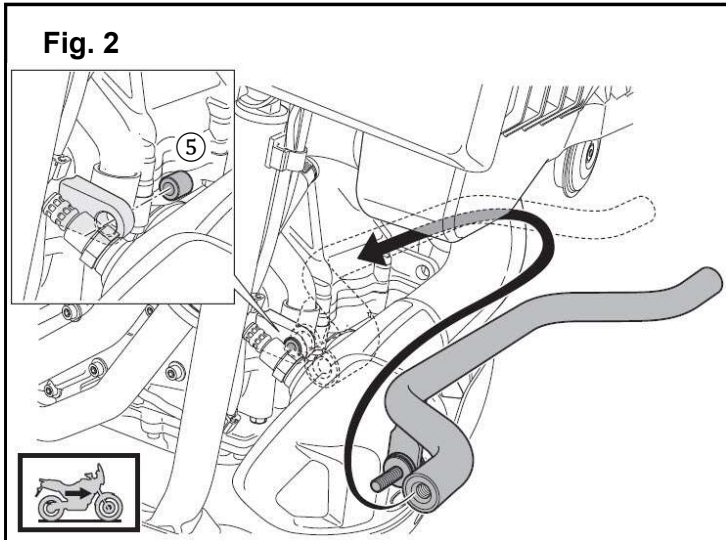

Fig. 2
3. Locate the frame tab behind the oxygen sensor and insert the (5) Bushing 11.5mm. Maneuver the (1) Lower Tube Brace behind the exhaust system and insert the (4) M6x40mm Socket Head Bolt into the (5) Bushing 11.5mm. (Fig. 2)